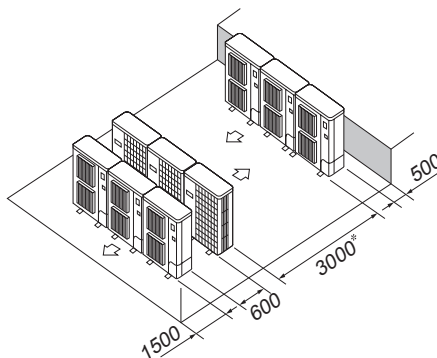

Fig. 4-17
- ⑥ Multiple parallel unit arrangement (Fig. 4-17)